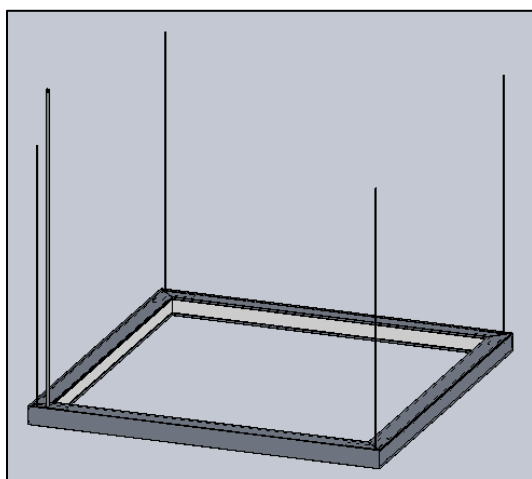

FIG. 4 - STEALTH LUMINAIRE
1. STEALTH LUMINAIRE. (Pre-assembled SE1-P1EM-STATICWHITE as shown in FIG. 4)